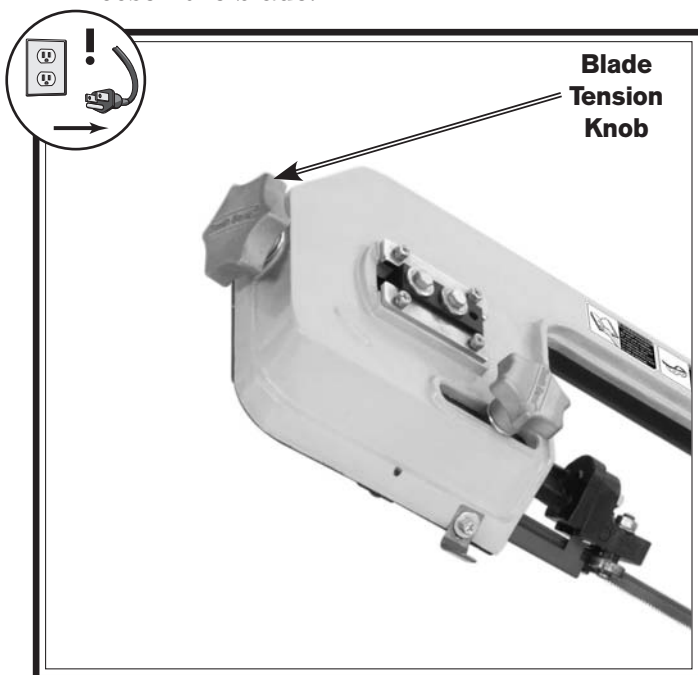

Figure 29. Adjusting blade tension.
4. Turn the tension knob in **Figure 29** clockwise to tighten the blade or clockwise to loosen the blade.